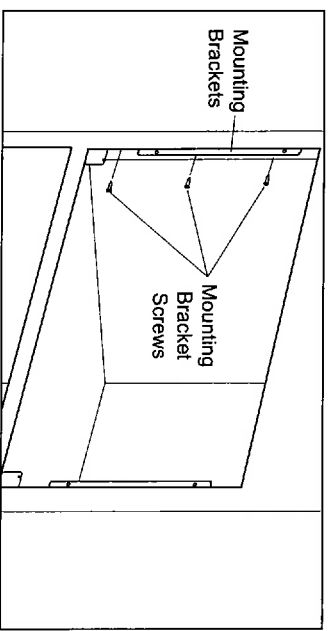

Figure 1. Mounting Brackets
3. Locate mounting brackets. Pre-drill pilot holes before installing screws to avoid damage to cabinet or trim kit hardware. Attach mounting brackets with supplied screws, making sure brackets do not extend beyond front surface of cabinet (See Figure 1).